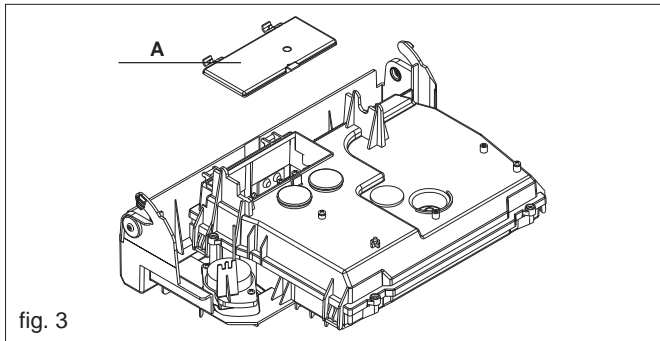

fig. 3
- remove the cover (A, fig. 3) that gives access to the jumpers